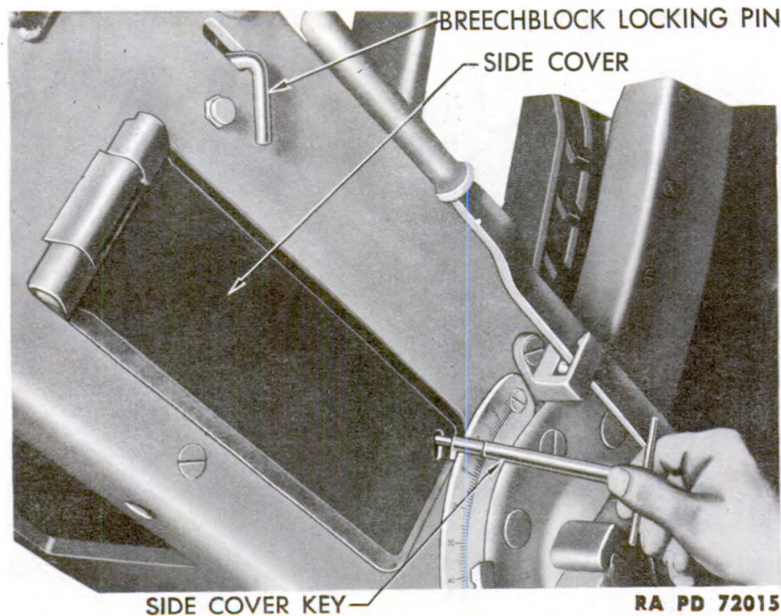

Figure 124 – Side Cover – Opening With Key
(1) Open the side cover by inserting the side cover key (fig. 124), pressing the key inwardly, and turning it counterclockwise. Tie back the side cover with a piece of cord to retain it in open position.
(2) Close the breech. Elevate the gun to about 45 degrees. Release the bottom cover by rotating the cover latch lever and remove this cover by disengaging its rear end from the breech casing.